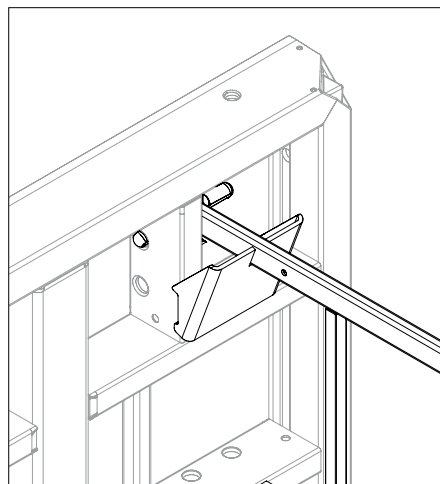

Fig. A7.04
- Vertical panel struts (Fig. A7.04)